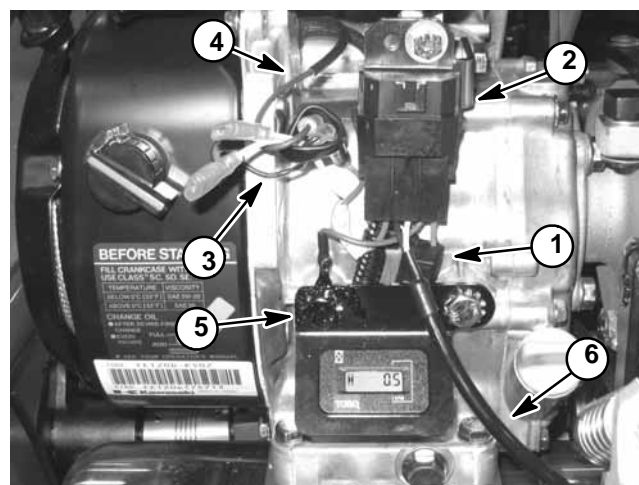

Figure 5
1. Check that there is a good ground between the interlock module (green wire) and the engine (Fig. 5). Check all other electrical connections and the interlock module for damage. Repair or replace any damaged wiring or components.
- A. Disconnect red wire (male connector) where it connects to the black wire leading to the ignition coil (Fig 5).